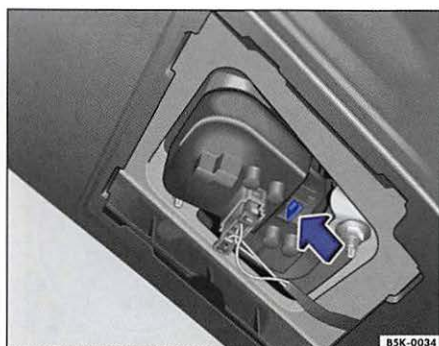

Fig. 196 In the rear hatch: Removing the bulb holder.
4. Push the locking lug in direction of the arrow ⇒ fig. 196 and remove the bulb holder.